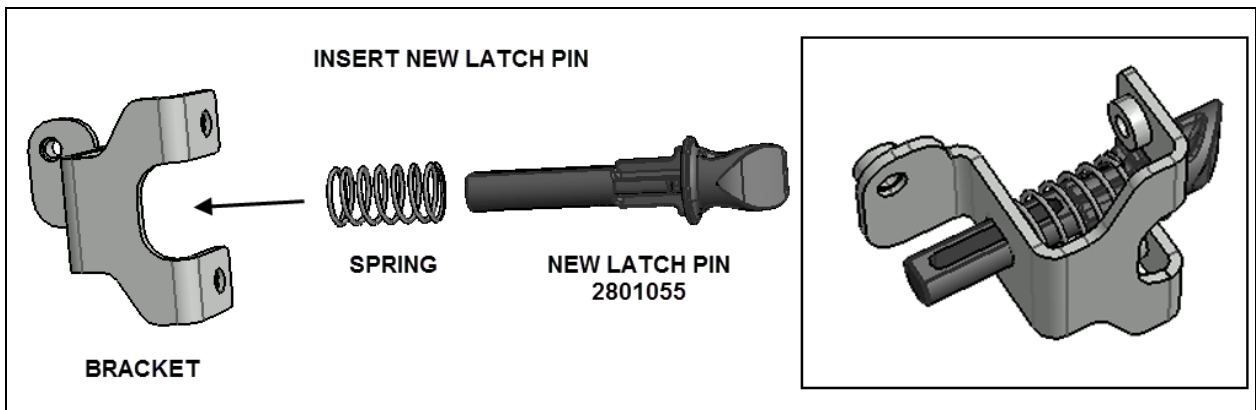

FIG.23 NEW LATCH PIN IN BRACKET
21. Insert *new latch pin 2801055* (and spring) into latch bracket opening (Fig.23).